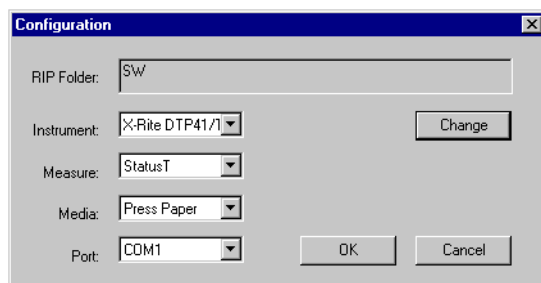

Figure C.1 Configuration dialog box
1. Choose **File > Configure** to display the Configuration dialog box, as shown in Figure C.1.
| RIP Folder | Identifies the SW folder of the RIP installation that you are using to print targets and import data. You can read targets that have been created by the RIP running on another computer if you have network access to the corresponding SW folder. If you want to do this, click Change and use the file browser to select the SW folder of the remote the RIP installation. The default is the relative path to the SW folder of the the RIP with which Genlin is supplied (as shown in Figure C.1). |